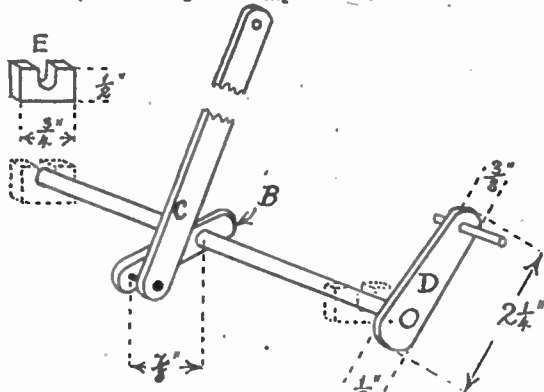

Fig. 3—Dimensions of the raising mechanism
The raising mechanism (Fig. 3) is built along a $\frac{1}{2}$ in. thick dowel which should be $5\frac{1}{2}$ ins. long. (B), (C) and (D) are cut from $\frac{1}{4}$ in. wood. The lever (B) is $\frac{1}{2}$ in. wide and $1\frac{1}{2}$ ins. long and is glued $3\frac{1}{2}$ ins. from the handle (D). A brass